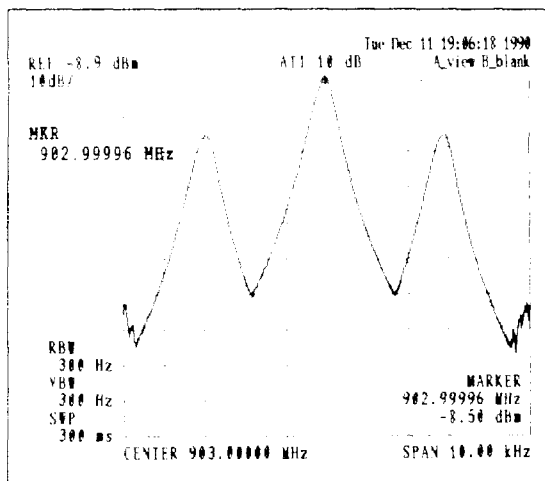

Fig. 4-14 FM wave f_c and E_c
- ② Read the carrier frequency f_{c} from the center frequency indication and read the carrier level E_{c} from the reference level indication. (See Fig. 4-14.)
- ③ Match the delta marker with the 1st side band and read the frequency f_{SB} and level E_{SB} from the delta marker indication.